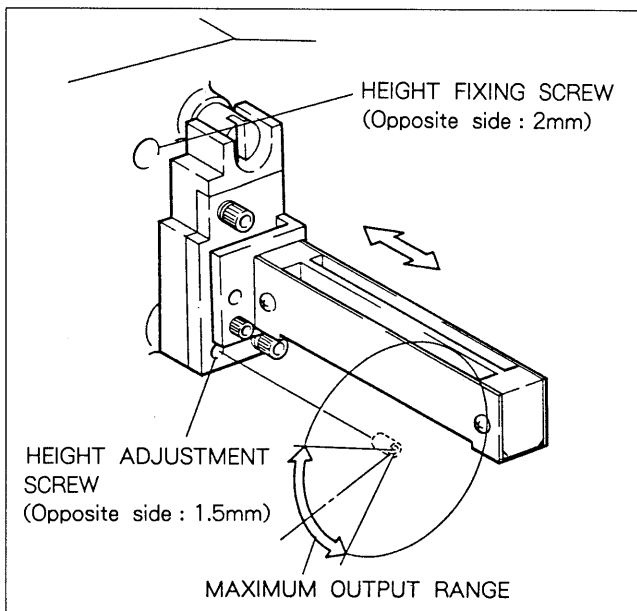

Fig. 9-8-7. Audio Monitor Head Height Adjustment
- (2) Loosen the height fixing screw (opposite side: 2 mm) shown in Fig. 9-8-7.
- (3) Turn the height adjustment screw right and left and check the maximum output range of the CH-1 (DA. CH-1).
- (4) Set the height adjustment screw in the middle of the maximum output range.